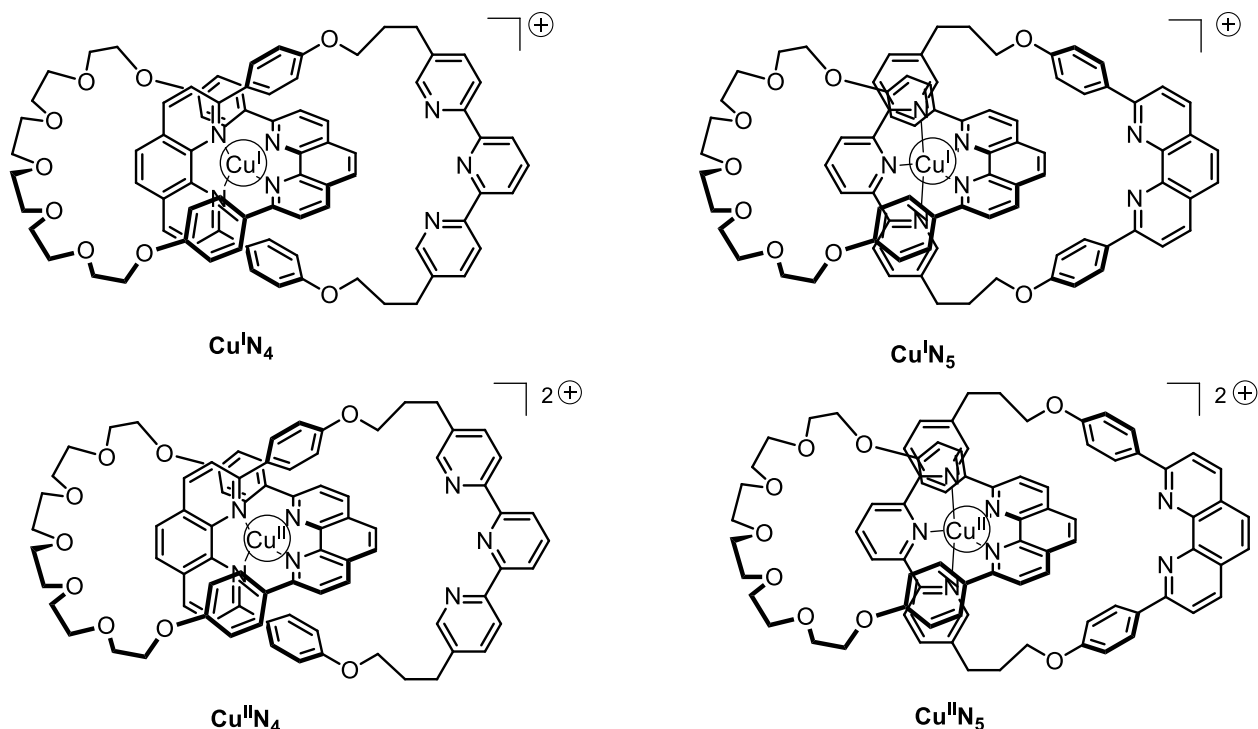

Fig. 2 – [2]catenane **L** states
11. **Fill** in the solid boxes with the designation of the involved complexes in **Fig. 2** and **complete** the sequence to achieve electrochemical control of the system using the following notation for the